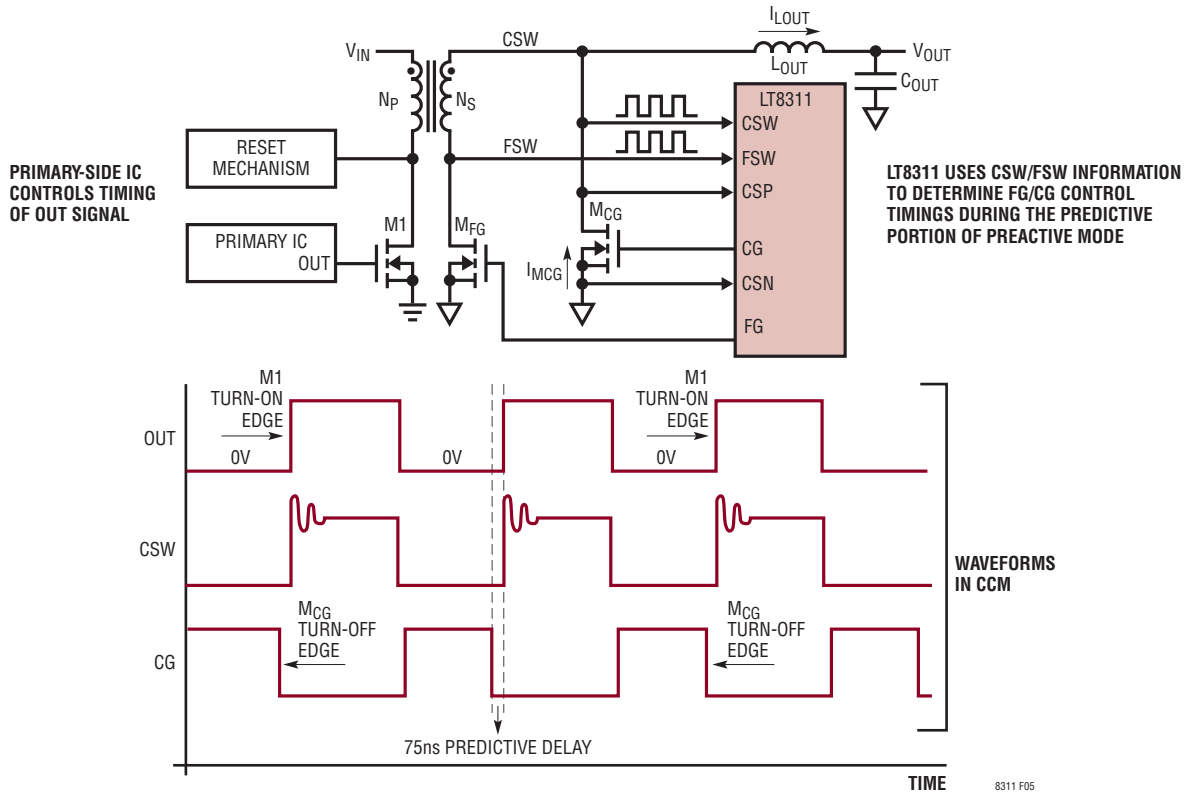

Figure 5. During the Predictive Portion of Preactive Mode, the LT8311 Phase Locks into the CSW Rising Edge and Turns Off M_{CG} 75ns Prior to This Edge
"Preactive" is short for "predictive" + "reactive". In preactive mode, the LT8311 controls the secondary synchronous MOSFETs without any communication from the primary-side IC. In preactive mode, the catch MOSFET, M_{CG} , is turned on (CG rising edge in Figure 5) when the voltage on its drain, CSW, is detected to be below -150mV, and the forward MOSFET, M_{FG} , is detected to be off. M_{CG} is turned off when the first of two events after M_{CG} 's turn-on occurs:
- **Predictive M_{CG} Turn-Off** (Figure 5): In predictive turn-off, the LT8311 predicts when M1 will turn on in the next cycle, and turns off M_{CG} 100ns prior to this event. Predictive turn-off of M_{CG} prevents cross conduction between M_{CG} and M1. M1's turn-on timings are predicted by phase locking to the rising edge of present and past CSW cycles. Predictive turn-off relies on the periodicity of M1's turn-on edge, an inherent aspect of fixed-frequency operation. Furthermore, the predictive turn-off is designed to be independent of the duty cycle of the system, which allows M_{CG} to be correctly turned off, even during load/line transients. Predictive turn-off will typically be the dominant turn-off mechanism for M_{CG} in CCM.